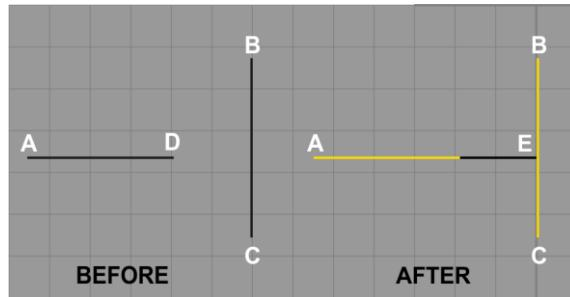

Figure 19. Extending a line.
3. **Extend:** This tool is useful when a shorter line needs to be extended up to the boundary. For example, in Figure 19, the line AD needs to be extended up the boundary line BC.